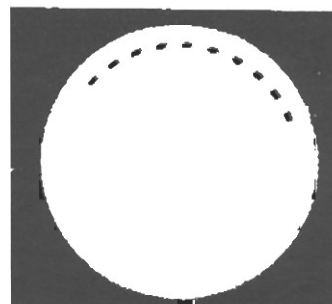

Fig 3-3. Spinning top image of a two pulsed unit using a 50 Hz mains supply
- Therefore a **0.1 sec exposure** should produce **10 spots** (see Fig 3-3).